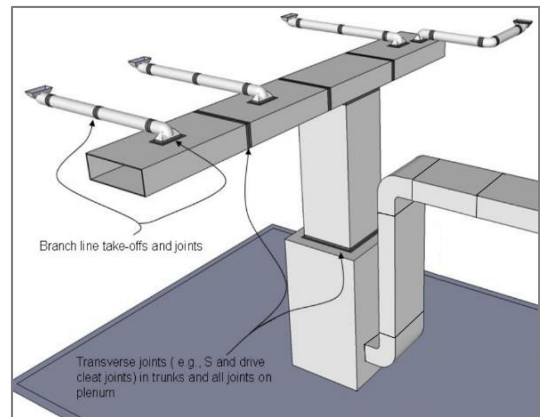

Figure 20: Option 7A duct sealing requirements for supply ducts installed in conditioned space
- For supply ducting installed in conditioned space, sealing supply ducts to SMACNA Class C seal level which includes transverse joints, branch take-offs, and branch supply joints using tape, mastic or gaskets approved for the application as shown in Figure 20.